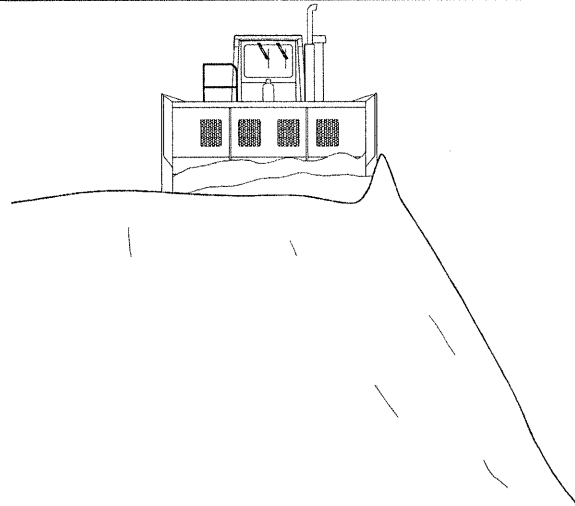

Fig. 4-11
1. When cutting on the edge of a pile, be certain to leave at least a 2 foot berm. There are safety as well as practical reasons for this procedure. See Fig. 4-11.